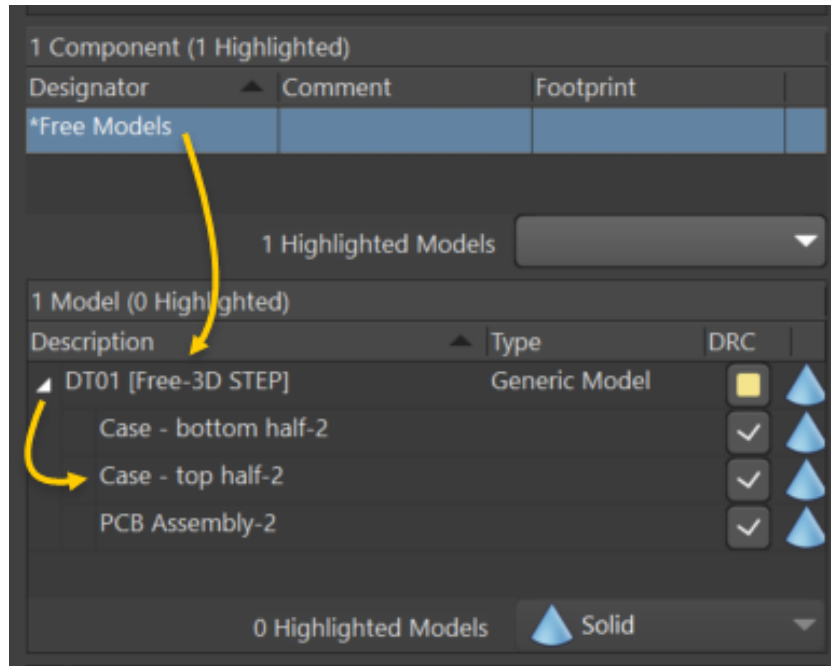

Figure 4. DT01 models from the PCB panel
22. In the *PCB* panel, you can see the *Free Models* section. Select *Free Models*. You'll then see the DT01 assembly in the *Model* section, as shown in Figure 4.